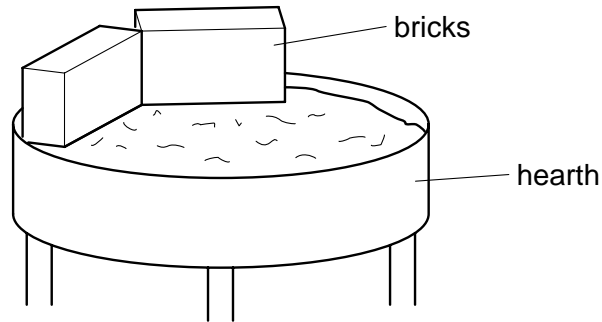

Fig. 1
- 1 Fig. 1 shows a circular hearth used in the workshop.